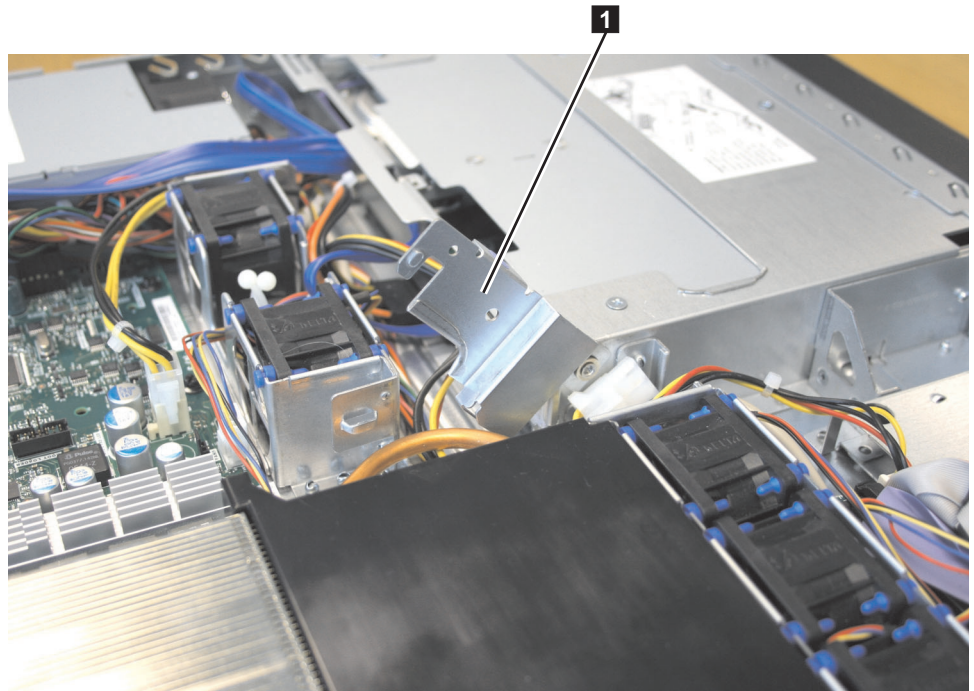

Figure 128. Air deflector for the SAN Volume Controller 2145-8A4 power supply
1. Make sure that the air deflector **1**, which is shown in Figure 128, is in the open position.
5. Rotate the air deflector (**1** in Figure 128 on page 147) into place, making sure not to pinch any cables beneath it, and press it down firmly.